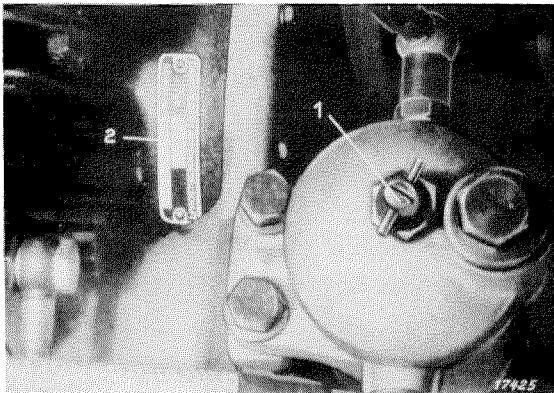

Figure 00-10/1 OM 636
1. Unscrew bleeder screw (1) at fuel main filter 1 to 2 turns (see Figure 00-10/1).